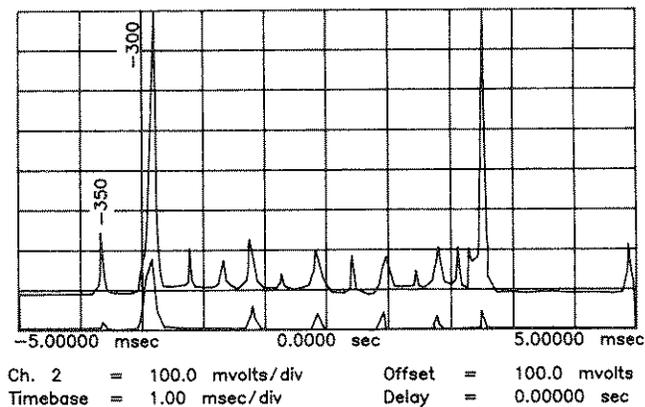

Figure 5-10d. Frequency Response of Notch Filters, 1015 MHz Setting.
14. Set the HP 8657D to a frequency of 1015 MHz and observe the oscilloscope Chan 2 display. The beat note levels should resemble those shown for channel 2 in Figure 5-10d. Adjust A4C85 to maximize the 300 MHz beat note while keeping the 350 MHz beat note at a minimum.